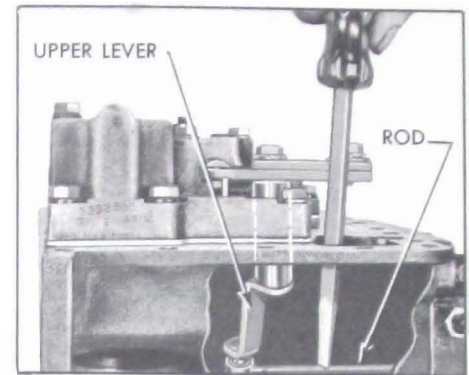

Figure 5-33—Disconnecting Valve Operating Rod from Upper Lever
6. Disconnect valve operating rod from valve operating lever (upper) by placing screwdriver on rod close to lever and exerting slight pressure. A spring loaded socket on rod engages a ball stud on lever. See Figure 5-33.
1. Disconnect valve operating rod from upper operating lever if not previously done. See Figure 5-33.